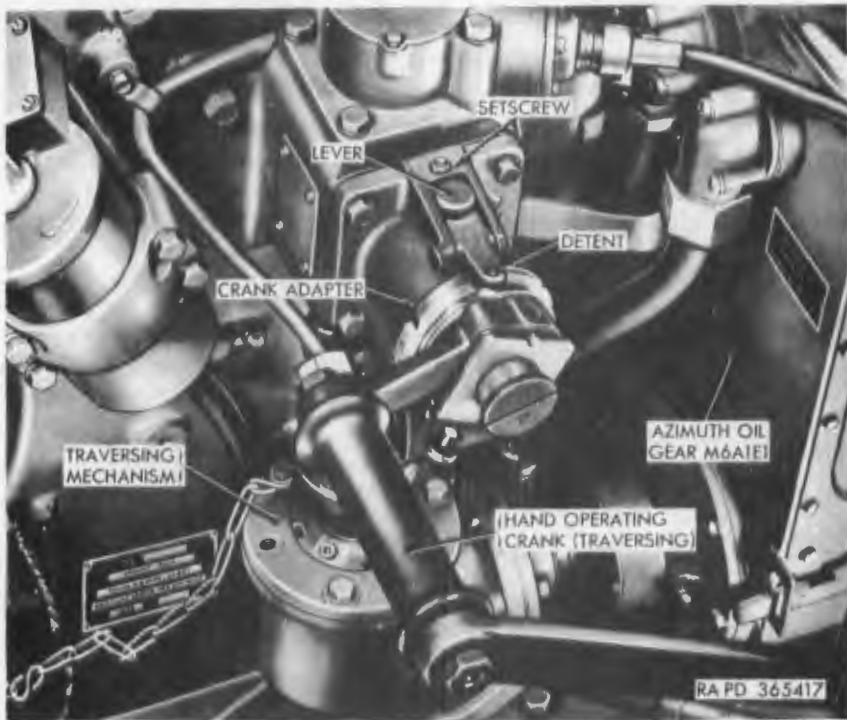
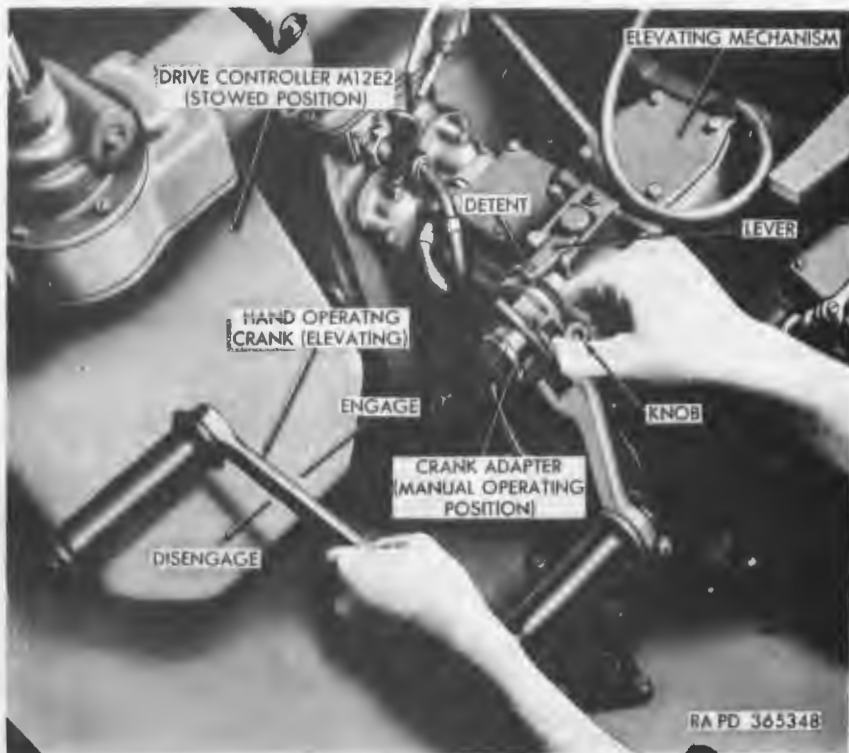

Figure 36. Hand operating crank (traversing).
Figure 37. Installing or removing hand operating crank.
- (1) *General.* The hand operating crank (traversing) (fig. 36) is used on the traversing mechanism to manually traverse the gun mount. Clockwise rotation of the crank traverses the gun mount to the left; counterclockwise rotation traverses the gun to the right. The hand operating crank (elevating) (fig. 37) is used on the elevating mechanism to manually elevate or depress the dual gun. Clockwise rotation of the crank elevates the dual gun; counterclockwise rotation, depresses the dual gun.
- (2) *Installation* (fig. 37). Position hand operating crank on crank adapter, lift up on knob, slide crank on adapter, and release knob. Carefully engage hand operating crank and adapter on splined gear of elevating or traversing mechanism.
- (3) *Removal* (fig. 37). Pull hand operating crank and adapter out to disengage adapter from splined gear of elevating or traversing mechanism. Position lever detents in depressions on crank adapter to prevent adapter from engaging splined gear during power operation. Lift up on knob and slide hand operating crank from crank adapter.